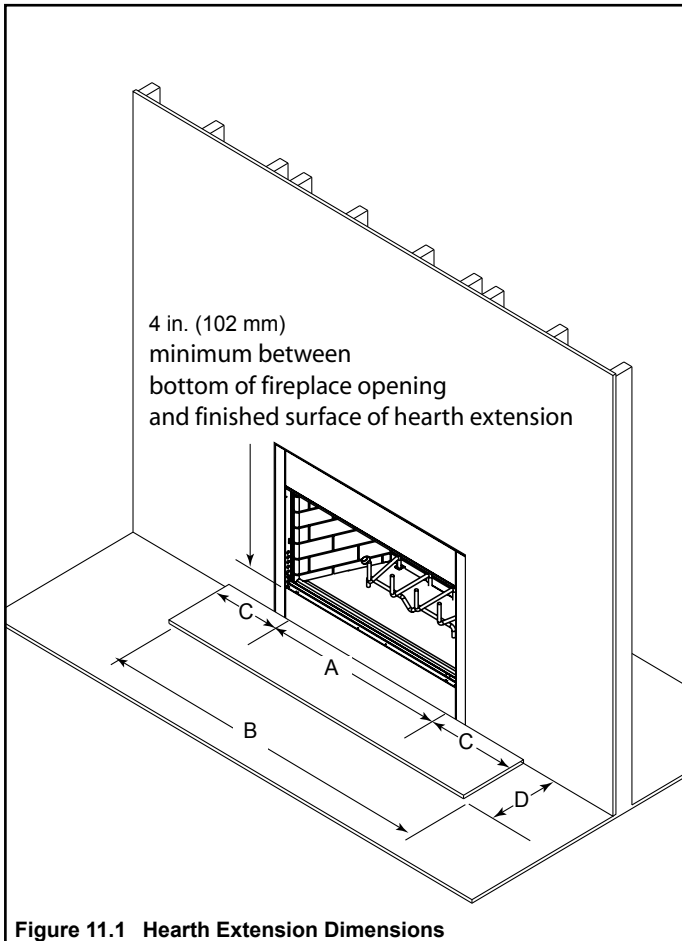

Figure 11.1 Hearth Extension Dimensions
- Refer to Figure 11.1 for minimum dimensions.